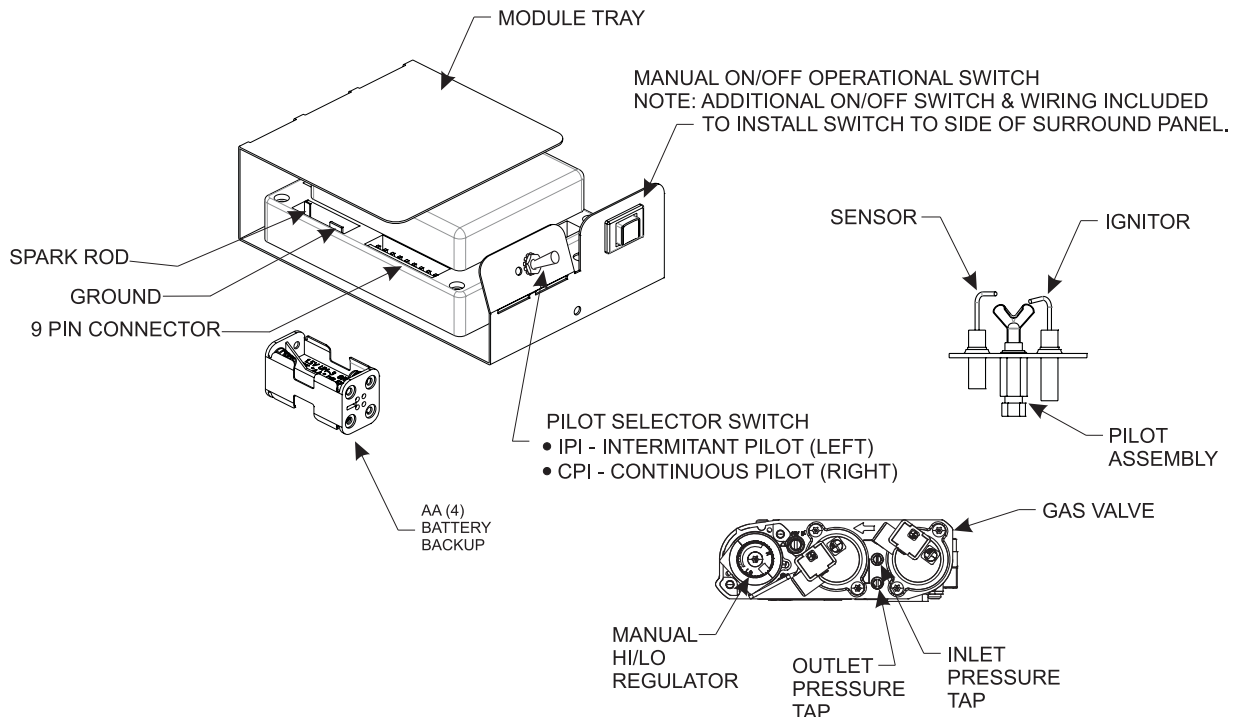

Figure 79
**NOTICE:** A small toggle switch is located on the front of the module tray that is used to switch from IPI (left) to the CPI (right). See **Figure 79**.
3. The gas valve has inlet and outlet pressure taps as shown in **Figure 79**. Refer to page 13 for gas pressure requirements.
**NOTICE:** The gas control has a manual HI/LO flame adjustment knob (regulator) that allows you to increase or decrease the height of the burner flame. See **Figure 79**. Rotate the HI/LO knob counterclockwise to "HI" to increase the flame height, and clockwise to "LO" to decrease the flame height.
To connect the remote receiver to the fireplace, first disconnect the ON/OFF switch wires from the white and green wire connectors and connect the wires from the remote receiver to the green and white wire connectors. See **Figure 79**.